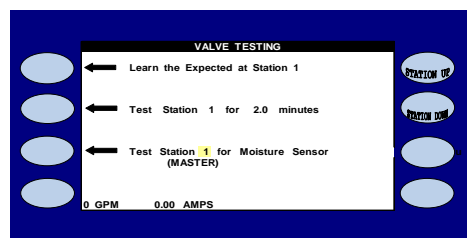

Figure 5.42
5. Press the blue **ARROW** keys to move the cursor to the **TEST STATION # FOR MOISTURE SENSOR** Entry (Figure 5.42).